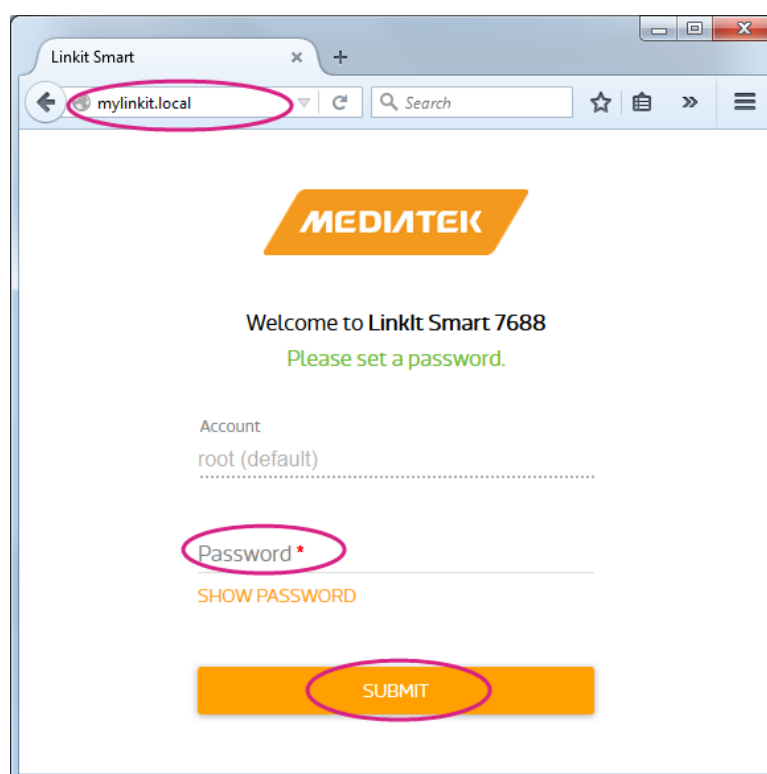

Figure 18 LinkIt Smart 7688 Web UI Sign In
3) In your web browser open `http://mylinkit.local`, as shown in Figure 18.